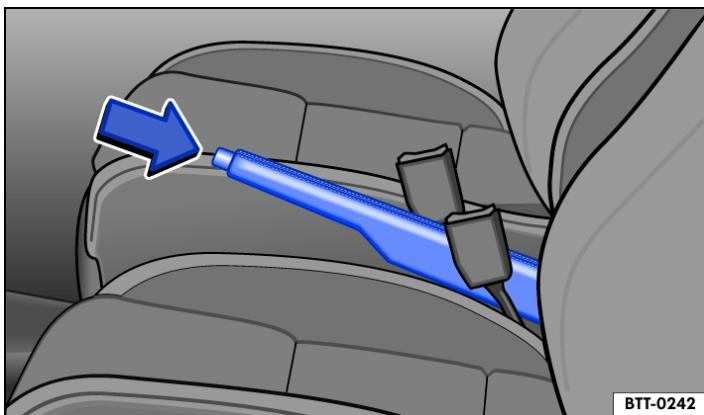

Fig. 1 Handbrake between the front seats.
— Pull the handbrake lever up firmly with the → *Fig. 1* locking button pressed.
- Lift the handbrake lever up slightly and press the lock button → *Fig. 1*.